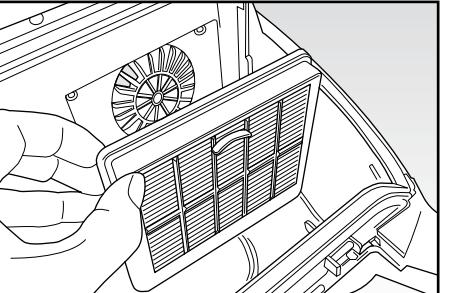

Fig. 10
- Slide the filter out from the compartment (FIG. 10).